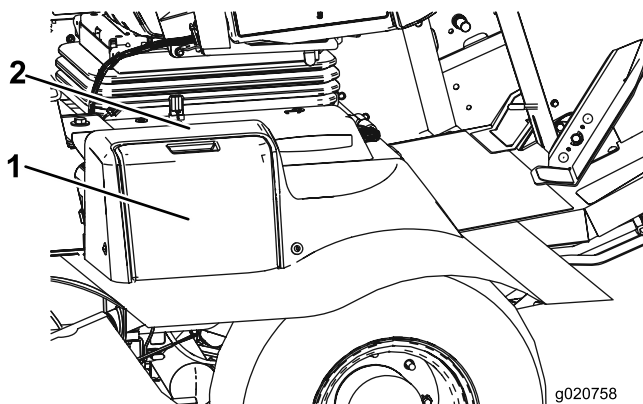

Figure 53
1. Open the battery cover (Figure 53). on the side of the shroud.
Note: Press down on the flat surface above the battery cover to ease cover removal (Figure 53).